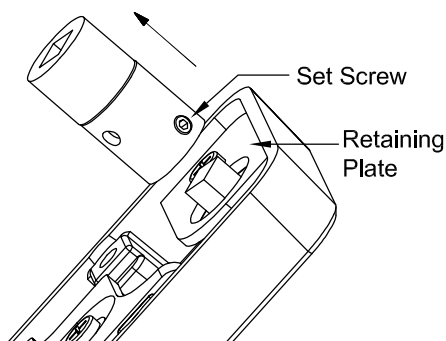

Fig. 3
- Remove the lever input extension from position A by first loosening its' setscrew. (See Fig 3)